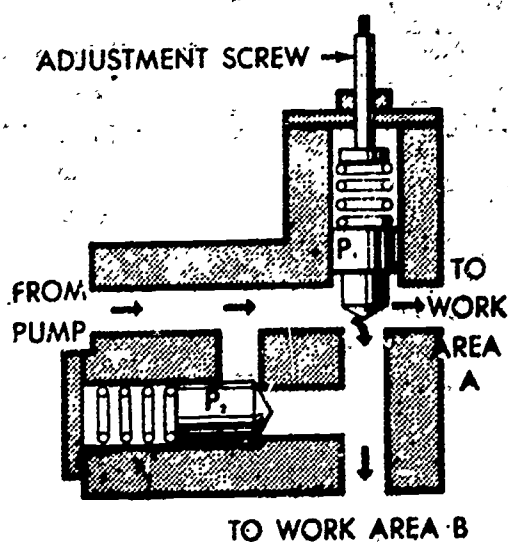
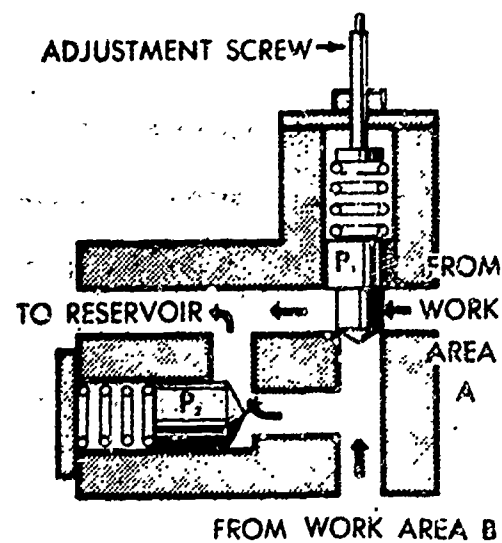

Figure 17
Figure 18
BYPASS VALVE -- In this type of valve flow runs in one passage until a certain pressure is reached. It is then also carried along a second pass to another work operation; see Figures 17 and 18. Liquid flows around (P_1) to one point of work, until a pressure is reached which raises (P_1) against the resistance of its spring. Then liquid will also flow through the second passage of the valve to do other work; see Figure 17. Valve (P_1) is held open by a smaller pressure than is needed to open it, because of the greater area against which this pressure can then act. When the position of the control valve governing the bypass valve is changed, liquid returns through the bypass valve from work area (A) past the base of (P) and from work area (B) past (P_2); see Figure 18.